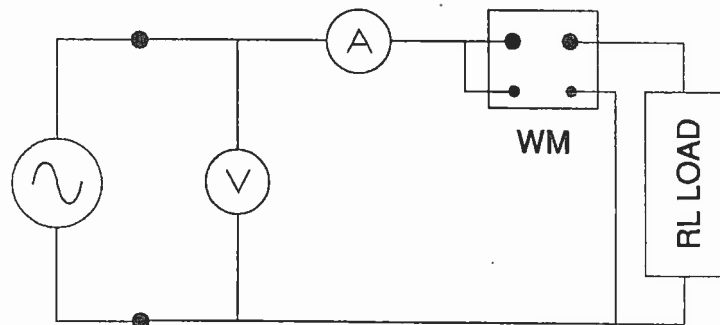

Figure 8 Measurement Setup for RL Circuit
A 60 Hz voltage supply is connected to the load shown in Figure 8. Measurements are performed; the voltmeter (V) measures 125V rms, the ammeter (A) measures 5.1A rms and the wattmeter (WM) measures 480W. The load consists of a resistor and inductor in series. Find the following: